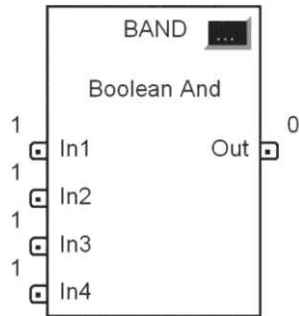

Figure 15-55 BAND function block for question 4.
4. For the BAND function block of Figure 15-55, the 4._____